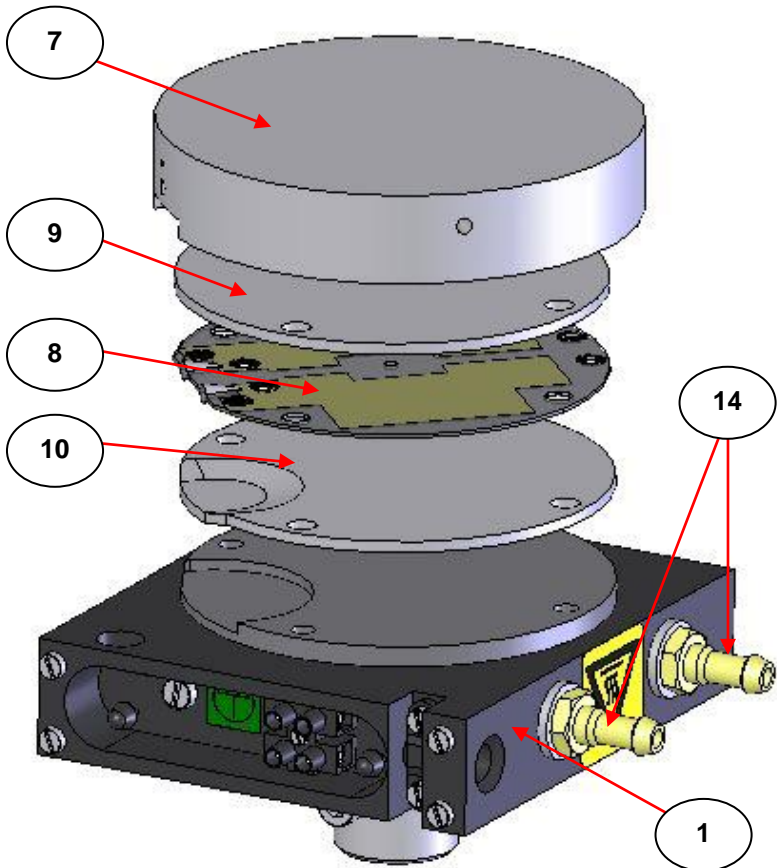

**Fig 3. Removal of the Four Screw/Washer (11/12) Assemblies to Remove Heated Platens Surface (7)**
To gain access, remove the four M4 size socket cap head screws (11) with their individual stack of four Belville type spring washers (12). (See Fig 3.)